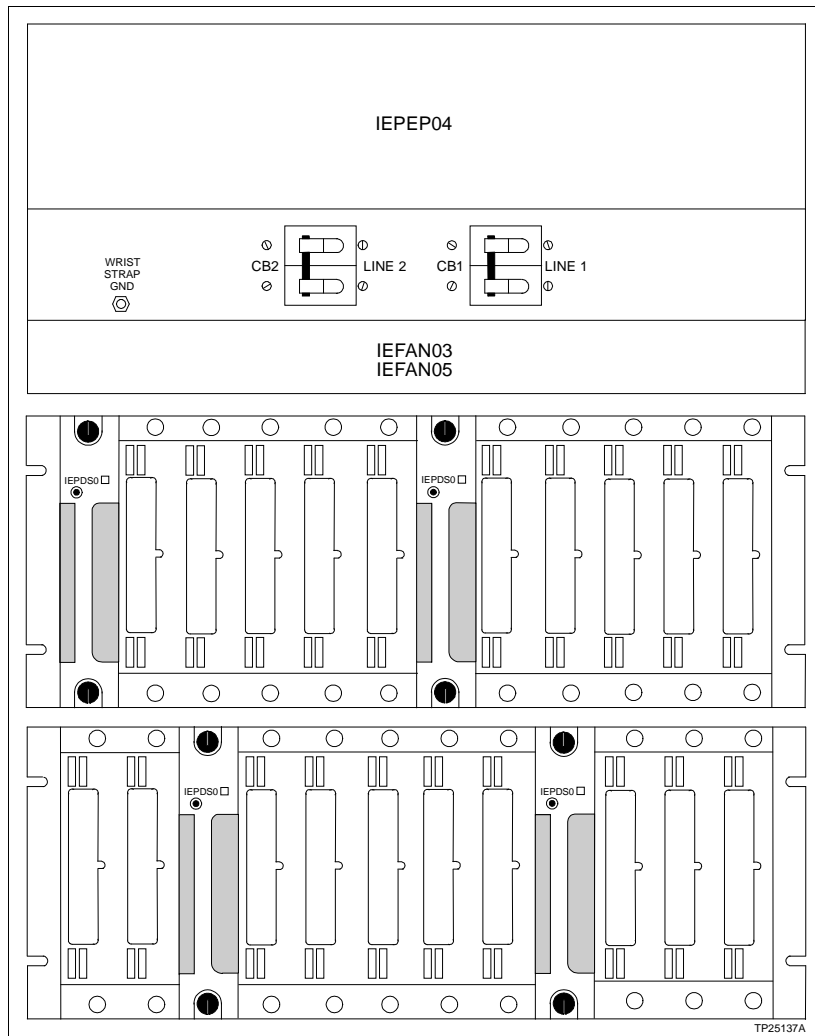

Figure 3-2. Circuit Breakers CB1/CB2
1. Place circuit breakers CB1 and CB2 (Figure 3-2) on the front of the panel to the OFF position before connecting DC power input wiring.